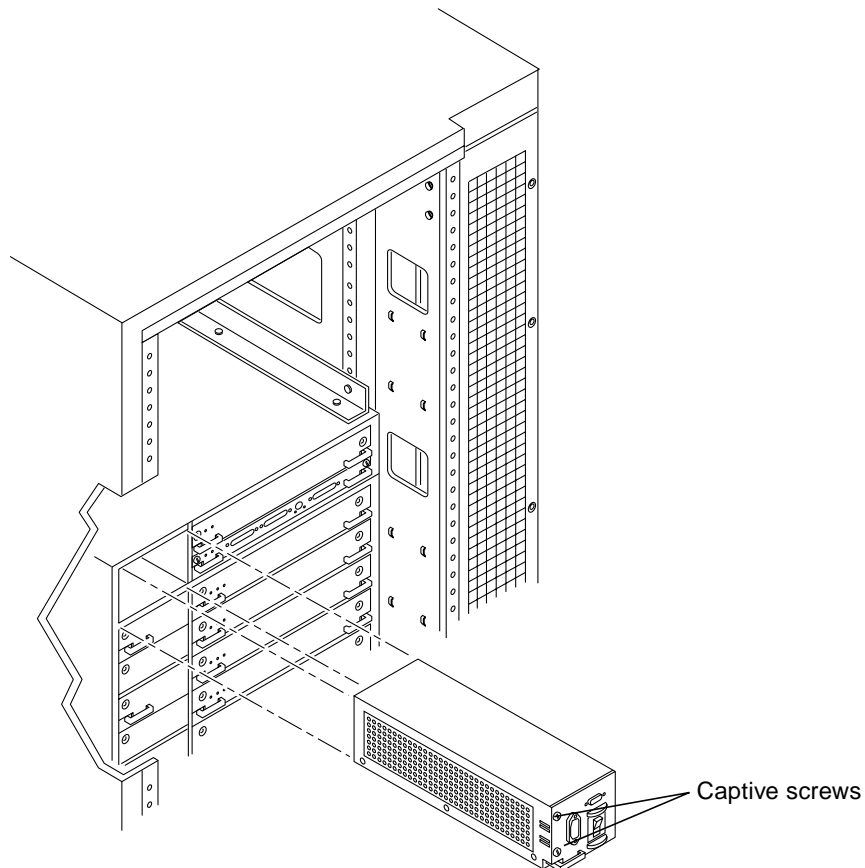

FIGURE E-14 Removing the 200/240V Fan Tray Assembly
2. Locate the fan tray assembly (FIGURE E-14) at the back of the card cage.
Viewed from the rear of the system, the fan tray is on the left side of the cabinet (FIGURE E-14).